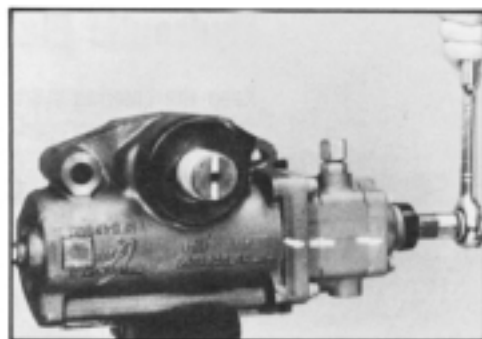

Figure 165
1. To center the steering gear, rotate worm shaft (23) until the timing mark on the end of sector shaft (51) is perpendicular to the worm shaft. SEE FIGURE 165. A 12 point 11/16 or 3/4 inch box end or socket required.